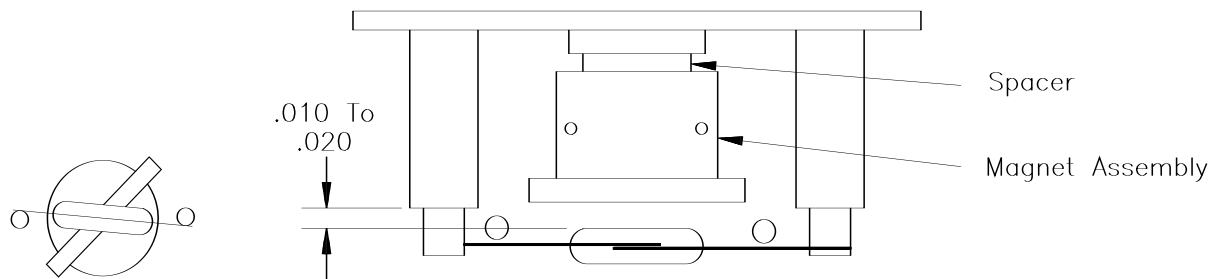

FIGURE C-1. Reed switch assembly
- E. Solder the new switch onto the sides of the switch mount terminals (form a loop in the relay leads to obtain proper lead length — **DO NOT CUT THE RELAY LEADS**). Measure the distance between the bottom of the rotating magnet and the top of the switch envelope, as shown in FIGURE C-1. The spacing should measure between 0.01 and 0.02 inches.